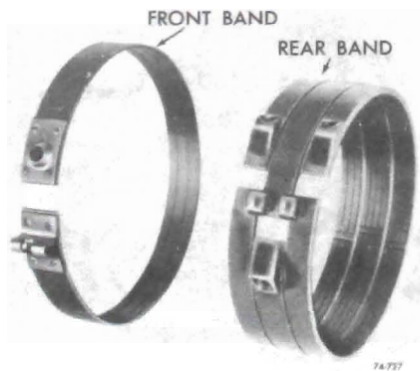

Figure 76-727
1. Inspect the lining for cracks, flaking, burning or looseness. See Figure 76-727.